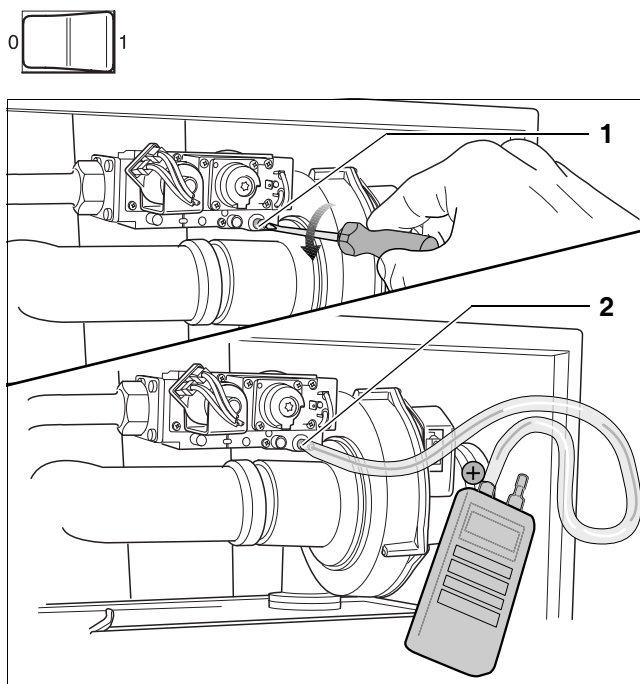

fig. 18 Checking the gas/air ratio
- Loosen the screw plug on the measuring nipple for the burner pressure by two rotations (fig. 18, pos. 1).
- Use a hose to connect the plus terminal of the pressure gauge to the burner pressure measuring nipple (fig. 18, pos. 2).